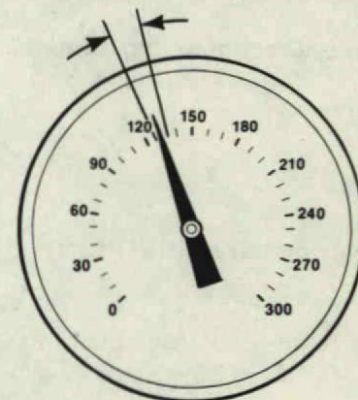

Figure 4. Compression Range.
4. Note the reading on the gauge. A reading between 115-125 p.s.i. (9.9), 125-135 p.s.i. (12 & 15) indicates good compression. If the reading is lower, then there is a compression leak. Figure 4.